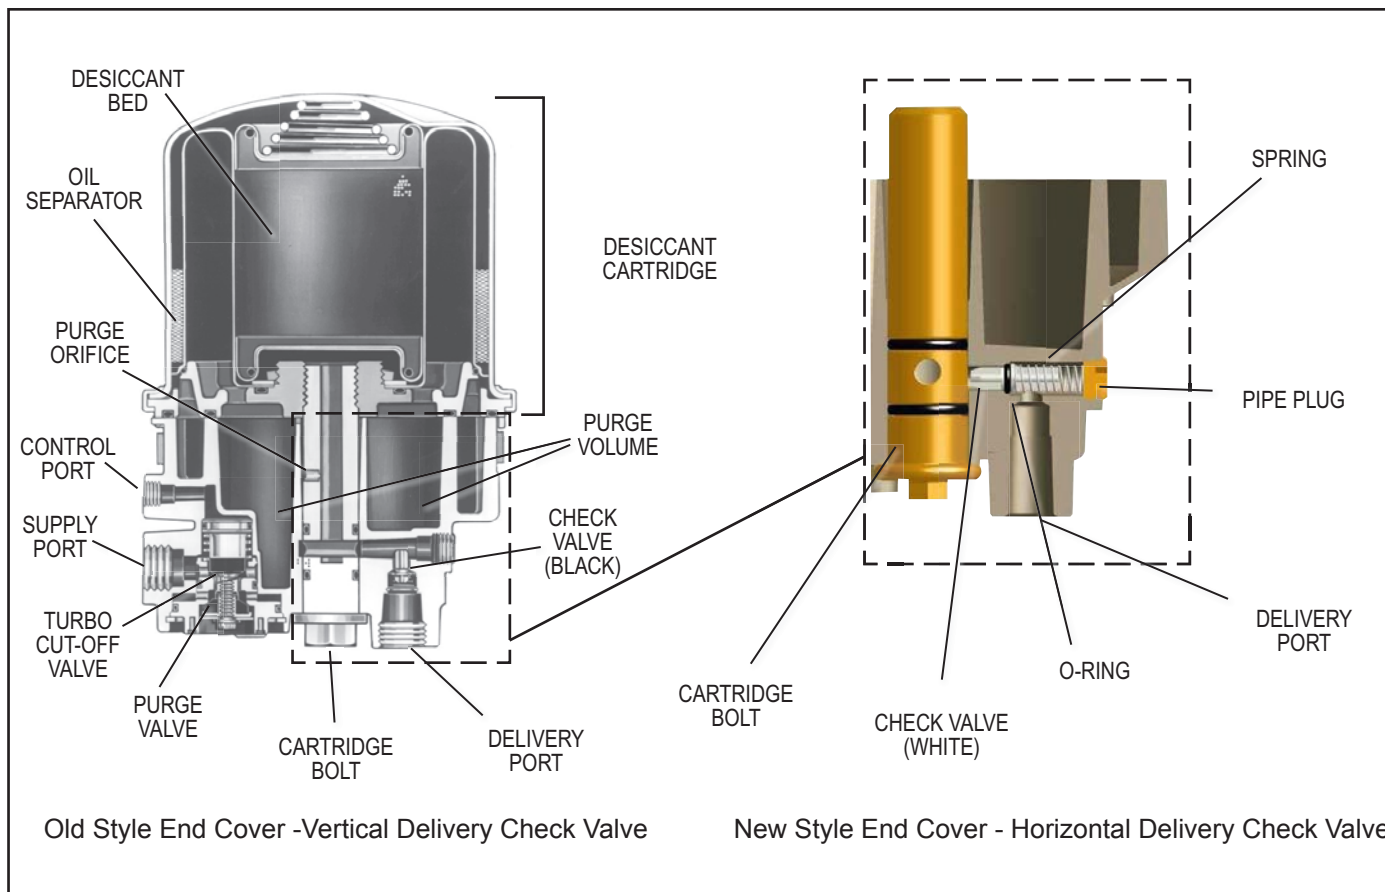

FIGURE 4 - BENDIX® AD-IP® AIR DRYER SECTIONAL VIEW
**Note:** the early end cover designs incorporated a vertical delivery check valve while the newer versions have a horizontal check valve. Both have the same function, but the components are not interchangeable. See Figure 4.